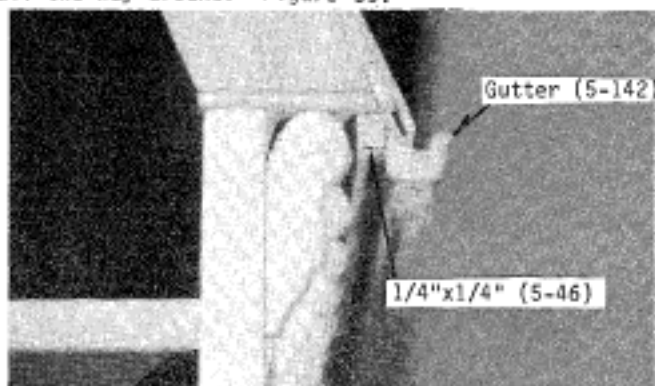

Figure 39
1. Cut 1/4"x1/4" molding (Part No. 5-46) to fit flush under the outer edge of the Main Mansard (only) all the way around. Figure 39.
2. Cut Gutter (Part No. 5-142) to fit around the outside of the 1/4"x1/4" molding flush with the bottom of the Mansard Roof. Figure 39.